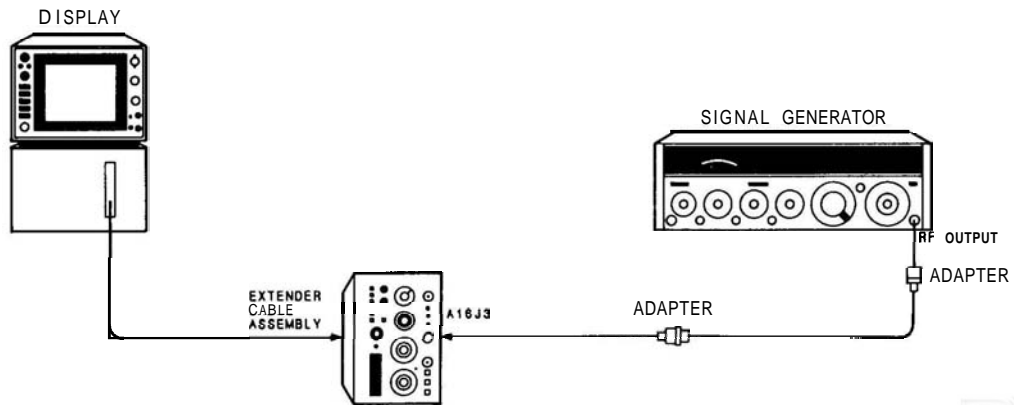

FIGURE 4-11. RESOLUTION BANDWIDTH SELECTIVITY TEST SETUP, 1 kHz TO 30 kHz
2. Connect equipment as shown in Figure 4-11.